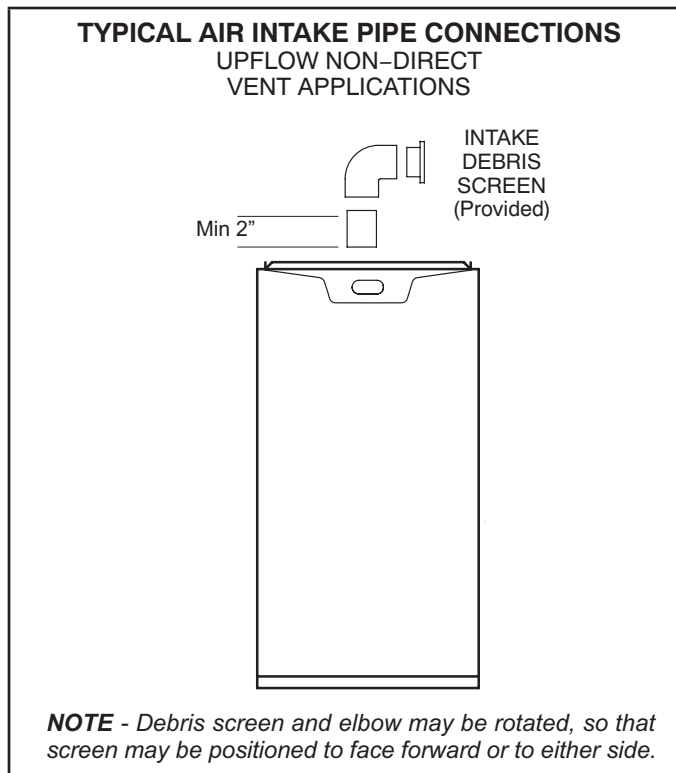
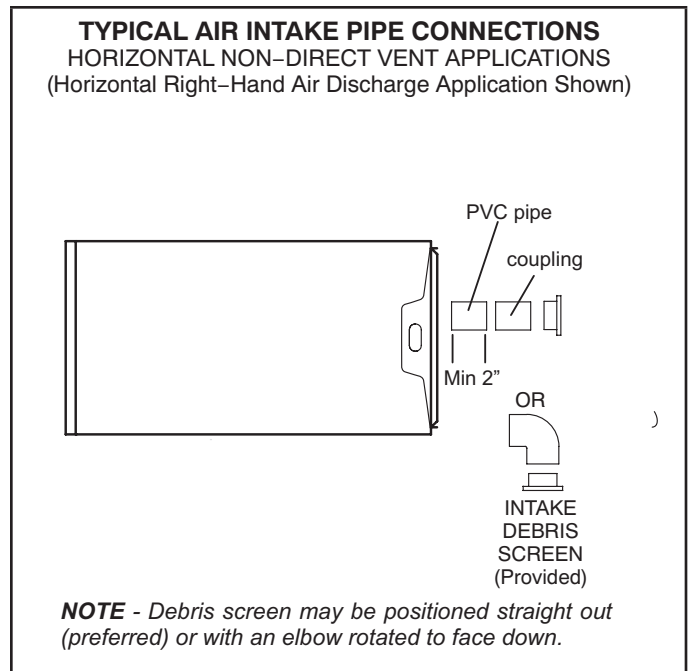

FIGURE 23
FIGURE 24
- 1 - Use field-provided materials and the factory-provided air intake screen to route the intake piping as shown in FIGURE 23 or FIGURE 24. Maintain a minimum clearance of 3" (76mm) around the air intake opening. The air intake opening (with the protective screen) should always be directed forward or to either side in the upflow position, and either straight out or downward in the horizontal position. **The air intake piping must not terminate too close to the flooring or a platform. Ensure that the intake air inlet will not be obstructed by loose insulation or other items that may clog the debris screen.**